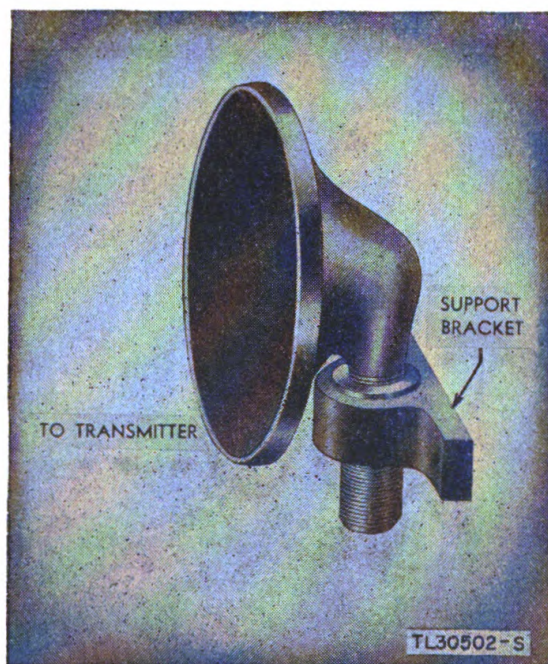

Figure 12. Antenna AT-67/AP.
14. ANTENNA AT-67/AP (fig. 12).